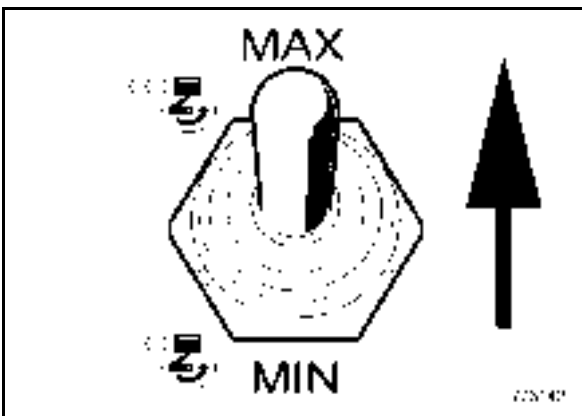

Fig. 42
- Set the toggle switch (Fig. 42) to maximum engine speed.